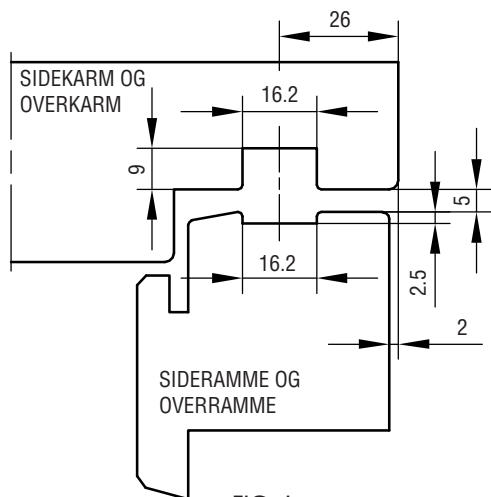

FIG. 1
- SIDE- OG ØVERSTE KARM OG RAMME FORSYNES MED GENNEMGÅENDE NOTER, SE FIG. 1.